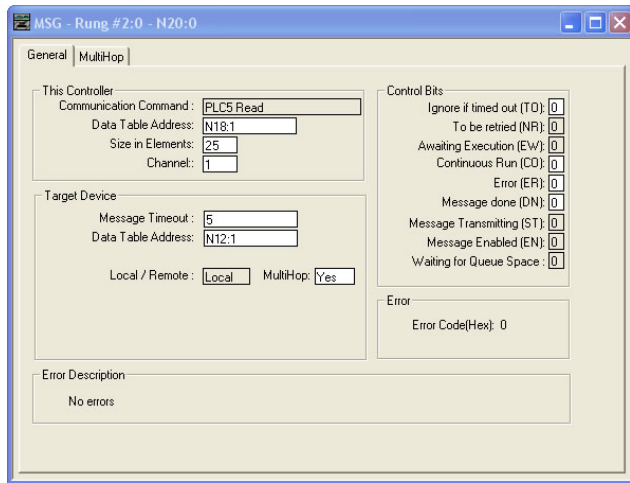

Figure 70: MSG Configuration, "General" Tab
- b) Upon hitting the <ENTER> key while in the “Control Block” entry box, the MSG Properties dialog box should appear (or it can be opened by clicking on the “Setup Screen” button at the bottom of the MSG instruction). Refer to Figure 70.